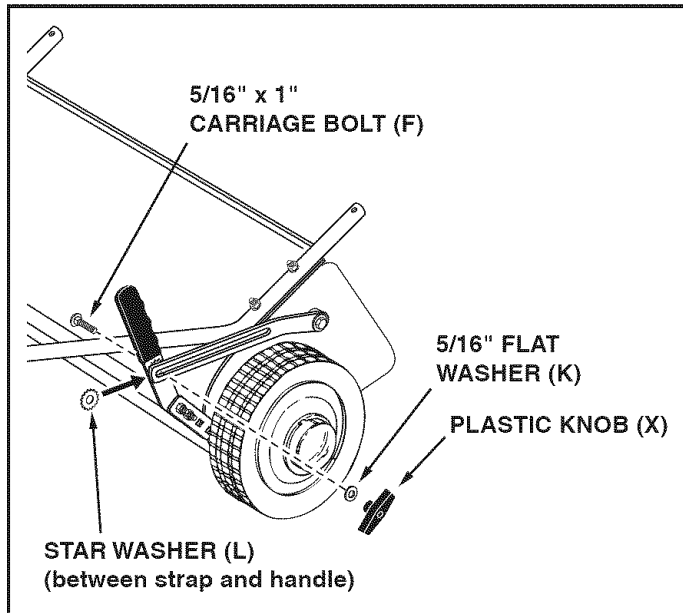

FIGURE 11
STEP 10: (SEE FIGURE 11)
- Place the star washer (L) between the height adjustment handle and the height adjustment strap. Insert the 5/16" x 1" carriage bolt (F) through the height adjustment handle, the star washer and the height adjustment strap. Assemble a 5/16" flat washer (K) and the plastic knob (X) onto the end of the bolt.